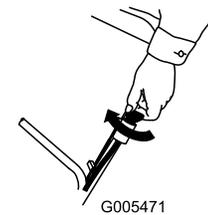
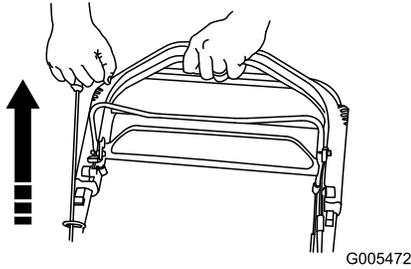

Figure 20
Figure 21
3. Turn the ignition key (Figure 20) or pull the recoil start handle (Figure 21).